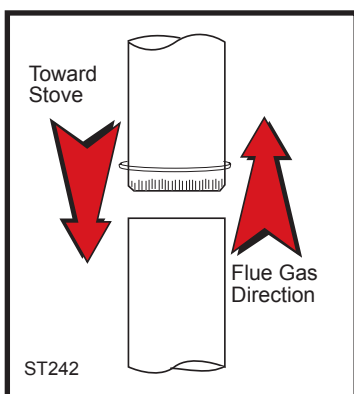
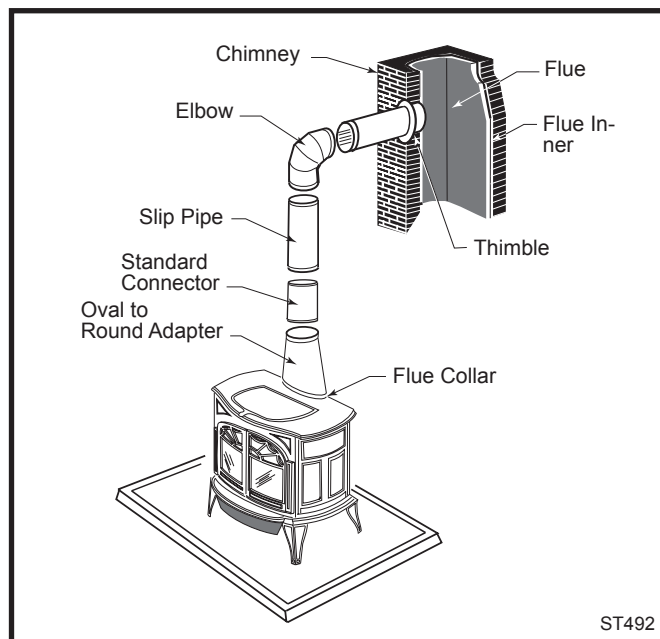

Fig. 4 Chimney connector.
Fig. 5 An exploded view of the chimney connection in a free-standing masonry installation.
- Begin assembly at the flue collar of the stove. Insert the first crimped end into the stove's flue collar, and keep each crimped end pointing toward the stove. (Fig. 4) Using the holes in the flue collar as guides, drill 1/8" (3 mm) holes in the bottom of the first section of chimney connector and secure it to the flue collar with three #10 x 1/2" sheet metal screws. Lift off the griddle, and shield the stove's surface between the griddle opening and the front of the flue collar to protect the finish when you drill the front hole.
- Fasten each joint between sections of chimney connector, including telescoping joints, with at least three (3) sheet metal screws. The pre-drilled holes in the top of each section of chimney connector serve as guides when you drill 1/8" (3 mm) holes in the bottom of the next section.
- Fasten the chimney connector to the chimney. Instructions for various installations follow. Figure 5 illustrates the general layout of chimney connector parts.